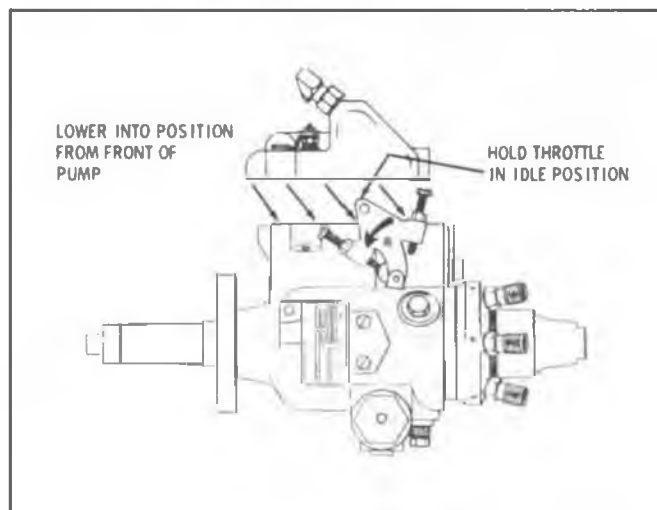

Fig. 2-13 Governor Cover Installation
24. Install new pump cover seal. Make sure the screws are not in the cover and position the cover about ¼ inch forward (toward shaft end) and about ¼ inch above the pump (Fig. 2-13).